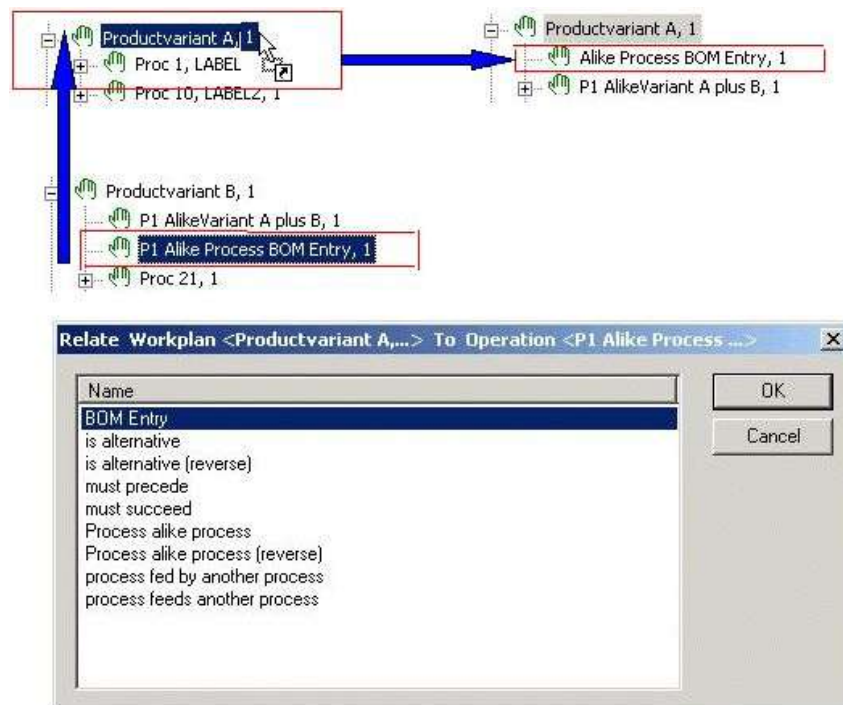

Figure 217: Marking Processes of the same Type via BOM Entry
- 4) Click the **OK** button to confirm. The process is added to this process graph as a reference. *Please refer to the Figure 217.*